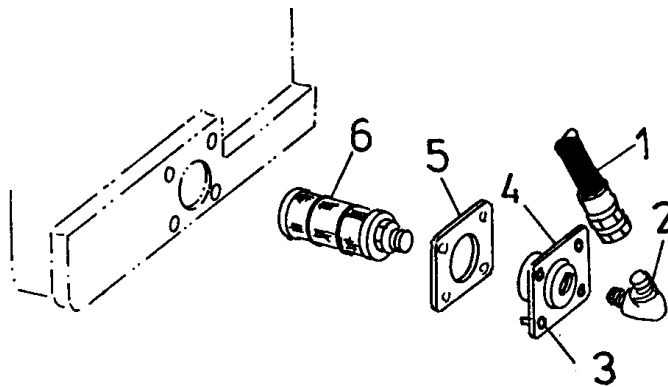

Fig. 5.45. Transmission Oil Suction Strainer
2. Disconnect tube (1, Fig. 5.45) from elbow (2), then loosen bolts (3), remove retainer (4) with strainer assembly (6) from the transmission housing, and remove gasket (5).
3. Thoroughly clean the gasket material from the transmission housing and retainer (4).
4. Unscrew strainer assembly (6) from retainer (4). Look inside the strainer and inspect the valve spring for breakage. Replace, if necessary.
6. Install strainer assembly (6) into retainer (4) and apply a new gasket (5) to the retainer. Install this assembly into the transmission housing. Thread elbow (2) into retainer (4) and tighten. Attach tube (1) to the elbow.